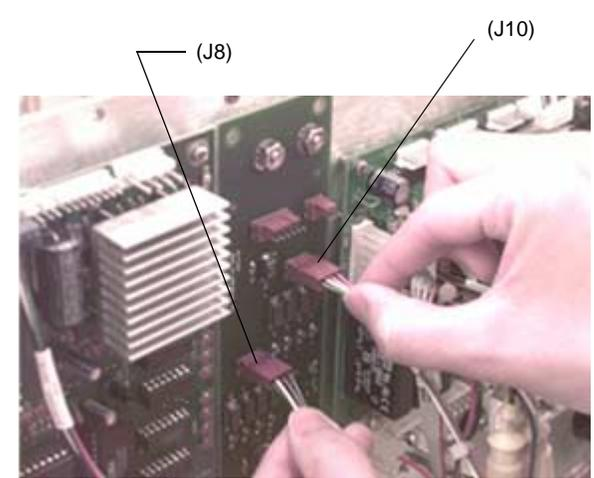

FIGURE 1.9.2b
- 1.9.2 Install Cable XYZ Motors Assembly (DY-700130-01), connect white connectors into (J8a) and (J8b) on Motor Head PCB. Connect opposite ends to (J8) and (10) on the DY-Flex PWA Assembly (DY-700100-01) as shown in figure 1.9.2b.